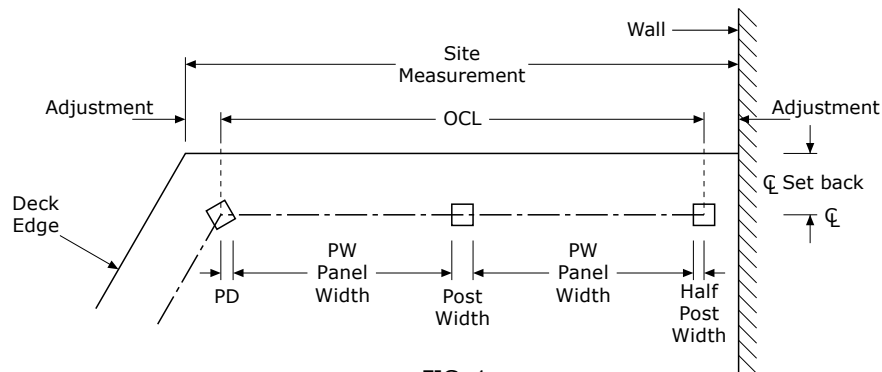

FIG. 1
The Overall Centreline (OCL) is the measurement of all balustrade runs in a continuous line, measured along the balustrade centreline (C) to each mitre, and to the centre of each end post (see Fig. 1 on Page 194)
From the site measurements, determine the OCL of the balustrade, taking into account the balustrade centreline position and any length adjustments necessary due to corners in the deck (see Fig. 1 on Page 194). Also take into account any clearances needed where the balustrade meets a wall face.
The Panel Width (PW) is a dimension between the faces of adjacent posts, measured along the rail centreline (see Fig. 1 on Page 194).
From the OCL, and the maximum post centres determined in step 1.3, calculate the PW of each panel (see Fig. 1 on Page 194), taking into account the post width and the "PD" Post Deduction taken from Pages 181-191.